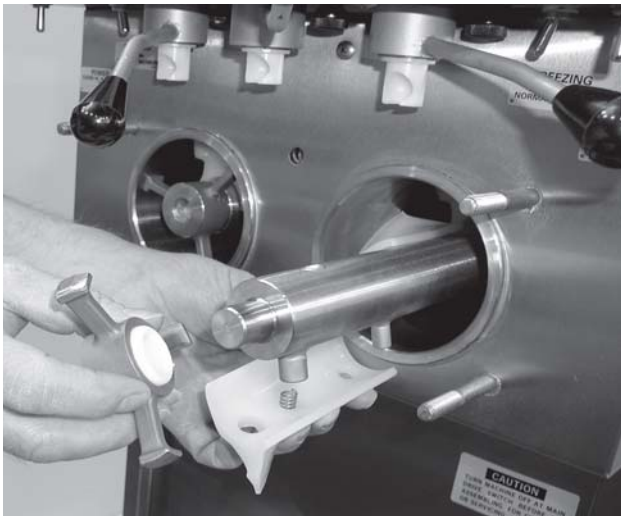

Figure 14. Auger Disassembly
3. Remove the auger by pulling slowly and rotating out of the freezer barrel. As the auger is with drawn, remove each plastic flight and spring from the auger. (Fig.14)